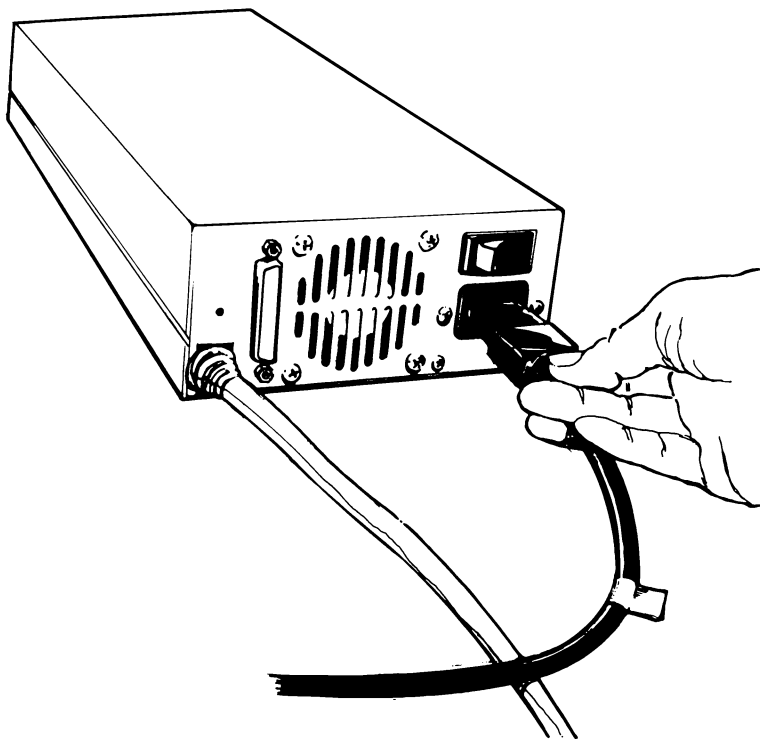

Figure 6
- 5) *Connect the power cable to the power supply connector on the rear of the tape drive and plug it in (Figure 6).*